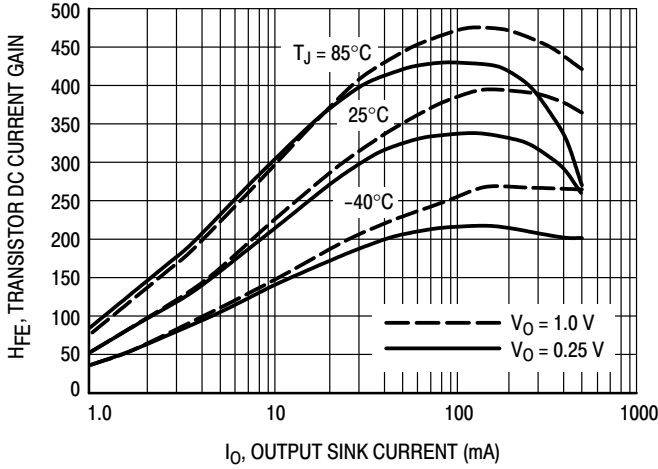

Figure 2. Transistor DC Current Gain
4. While keeping any $V_{O(sat)}$ requirements in mind, determine the max input current needed to achieve that output current from Figures 2 and 6.